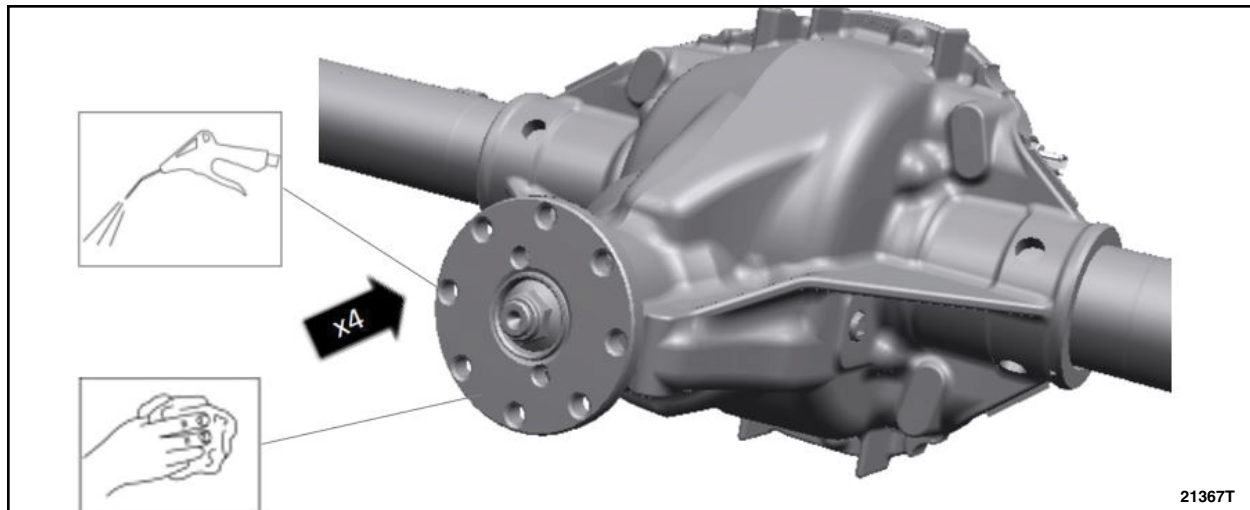

FIGURE 14
24. Using an air blow gun, remove any debris from threaded holes in axle flange. See Figure 14.